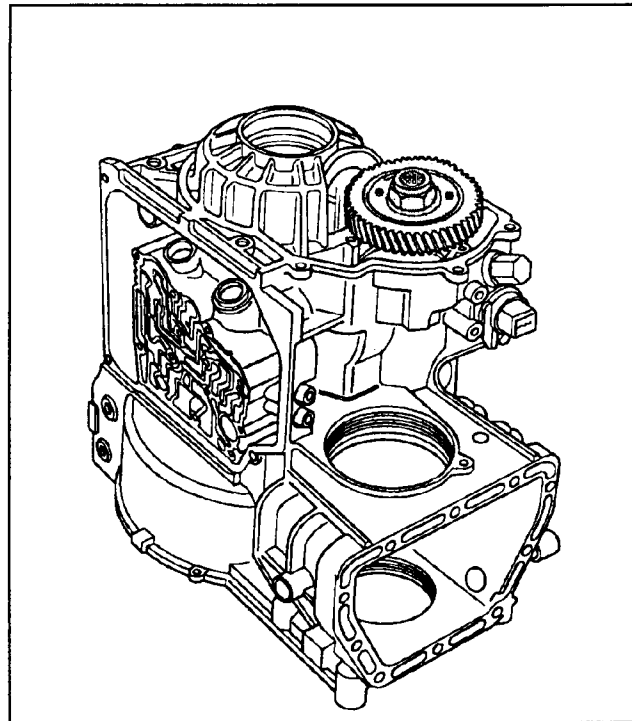

Figure 108
14. Install pinion driven gear and retaining nut (See Figure 108). (For adjustment procedure see Figure 119 and 120 Page 54).